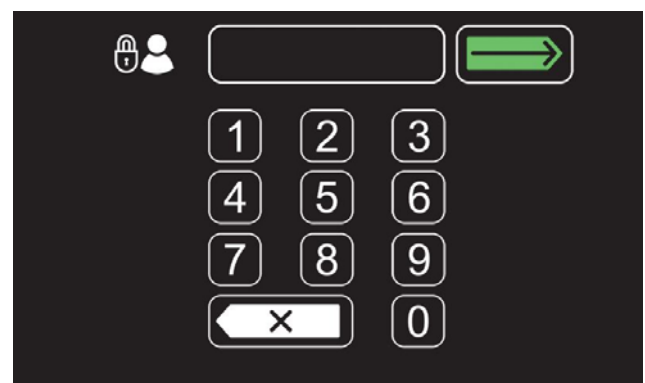

FIG. 165
8. To enable the login screen at start up (Figure 165), see Enabling the Login.